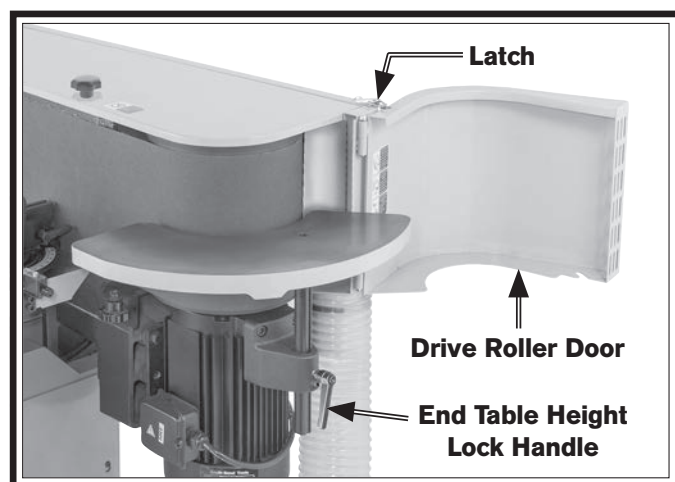

Figure 40. Drive roller door secured open.
3. Open drive roller door and use latch shown in Figure 40 to secure it open.
4. Loosen end table height lock handle (see Figure 40), adjust table as desired, then tighten lock handle to secure.